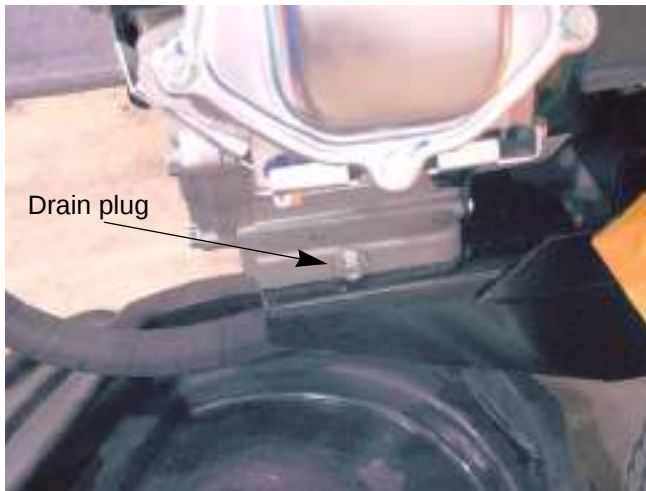

Figure 8.1
3. Remove the drain plug. See Figure 8.1.